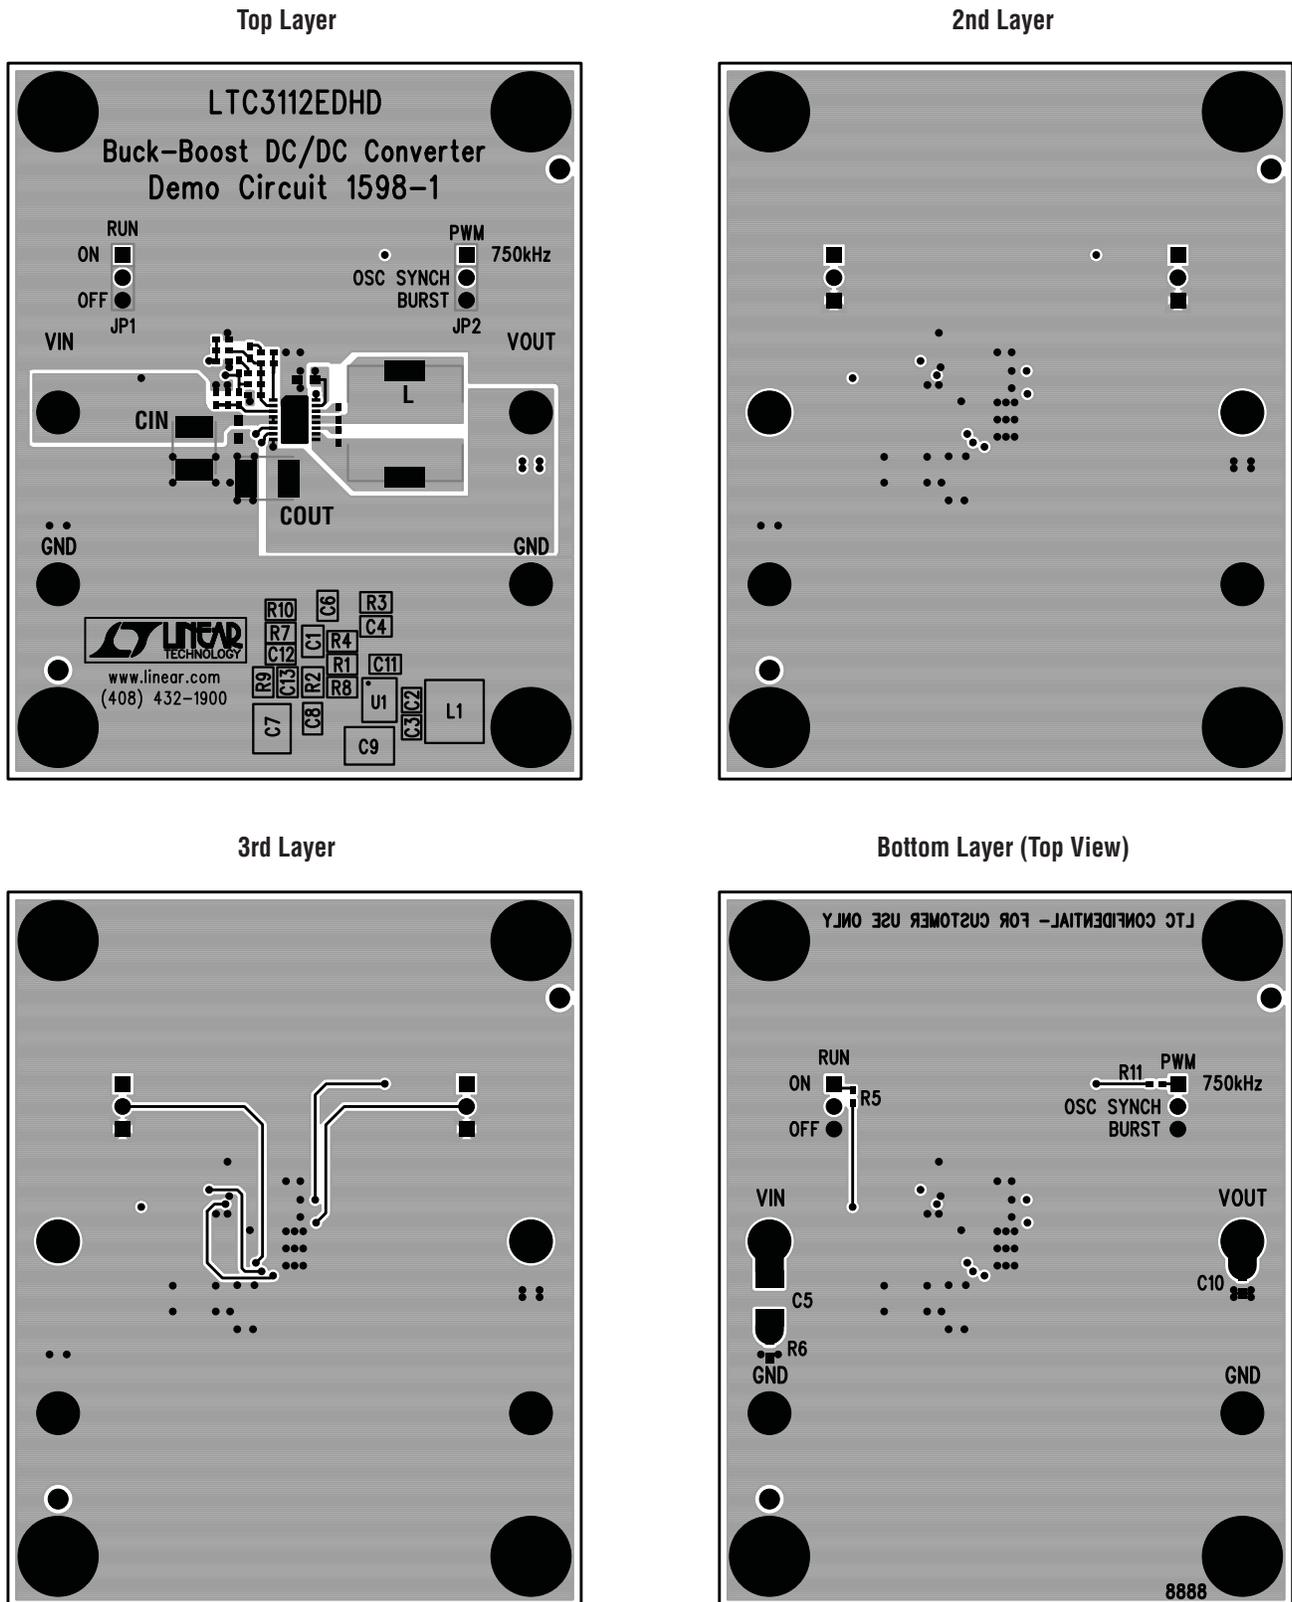

Figure 3. Example PCB Layout
The temperature rise curves given in the Typical Performance Characteristics section can be used as a general guide to predict junction temperature rise from ambient. These curves were generated by mounting the LTC3112 to the 4-layer FR4 Demo Board printed circuit board layout shown in Figure 3. The curves were taken with the board at room temperature, elevated ambient temperatures will result in greater thermal rise rates due to increased initial  $R_{DS(ON)}$  of the N-Channel MOSFETs. The die temperature of the LTC3112 should be kept below the maximum junction rating of 125°C.
The LTC3112 switches large currents at high frequencies. Special attention should be paid to the PCB layout to ensure a stable, noise-free and efficient application circuit. Figure 3 presents a representative 4-layer PCB layout to outline some of the primary considerations. A few key guidelines are outlined below:
plane should be placed directly under the  $V_{IN}$ ,  $V_{OUT}$ , SW1 and SW2 traces to provide a mirror plane to minimize noise loops from high  $dI/dt$  and  $dV/dt$  edges (see Figure 3, 2nd layer).
2. All circulating high current paths should be kept as short as possible. Capacitor ground connections should via down to the ground plane in the shortest route possible. The bypass capacitors on  $V_{IN}$  should be placed as close to the IC as possible and should have the shortest possible paths to ground (see Figure 3, top layer).
8. Crossover connections should be made on inner copper layers if available. If it is necessary to place these on the ground plane, make the trace on the ground plane as short as possible to minimize the disruption to the ground plane (see Figure 3, 3rd layer).